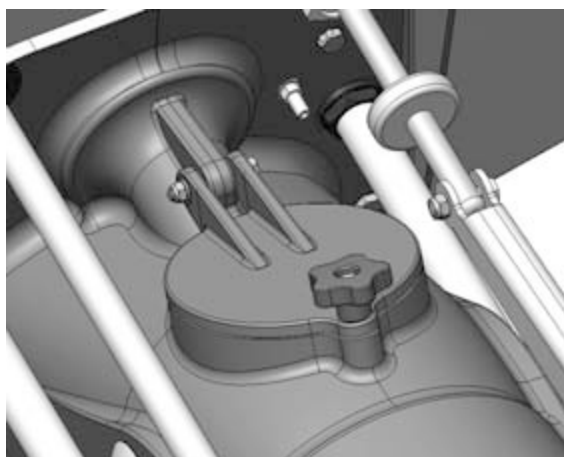

Figure 38. Inspection hatch
1. Open the inspection hatch (Figure 38).